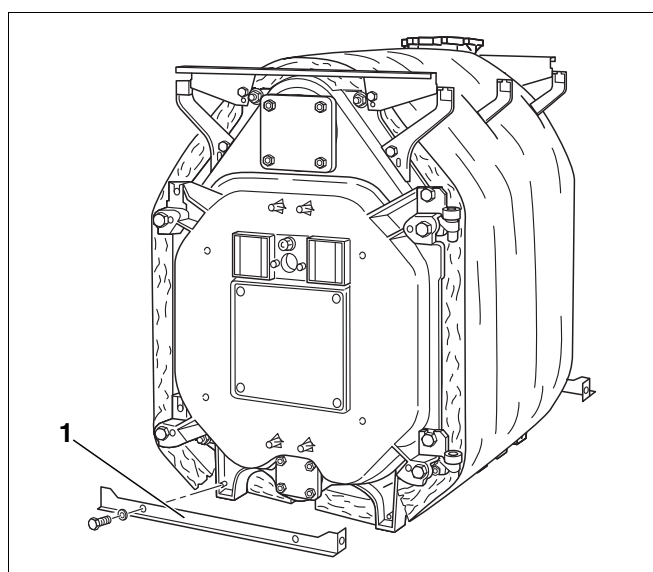

Fig. 43 Fitting the lower cross bars
- Screw each lower cross bar (Fig. 43, [1]) at the front and rear to the corresponding boiler section feet with two hexagon bolts. The folded edges of these connection plates must face outwards.